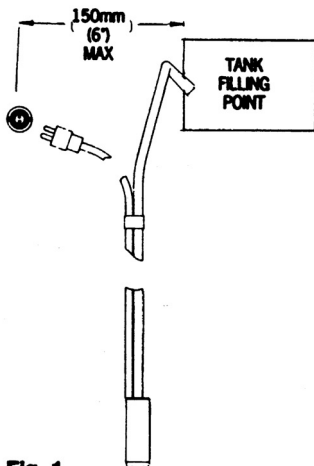

Fig. 1
1. When selecting a suitable position to secure the electrical socket to the wall of the caravan or motorhome. Check the hose will reach the inlet of the watertank - toilet with the plug connected. (Fig. 1).